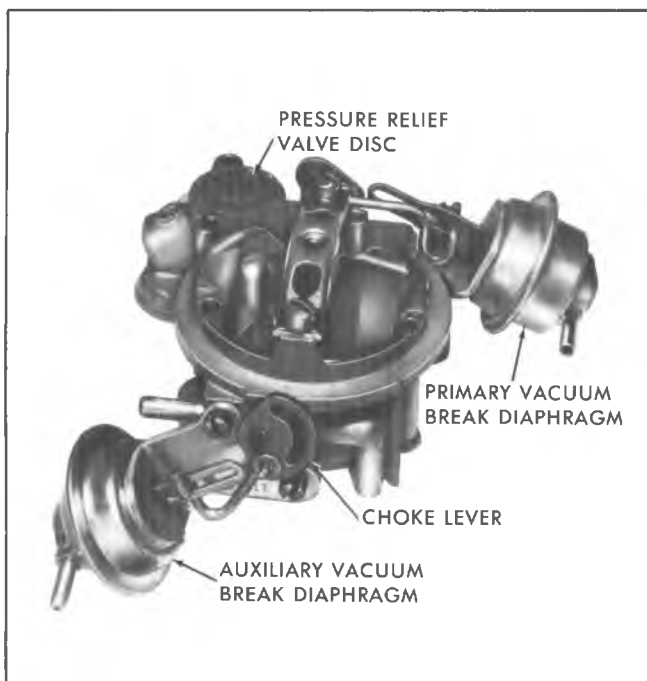

Fig. 1—Air Horn Assembly
1. Remove auxiliary vacuum break diaphragm assembly from air horn by removing two attaching screws. Remove auxiliary vacuum break diaphragm plunger from vacuum diaphragm link which is permanently attached to the choke lever. The lever and link assembly can be removed, if desired, during choke valve removal (Fig. 1).